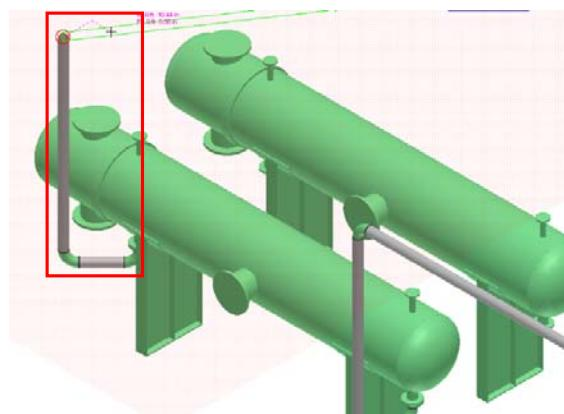

Figure 41: Routed Pipe in the Vertical Direction
45. Now, on the **Route Pipe** ribbon, key in **9 ft** in the **Length** drop-down list and use SmartSketch to locate the **U** glyph. Click in the graphic view to place the pipe, as shown in Figure 41.